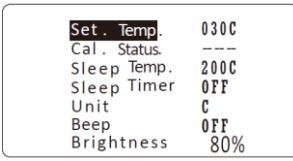

Fig.5
3.1. When Cal. status display "----" (see Fig 5), it means temperature have not calibration.